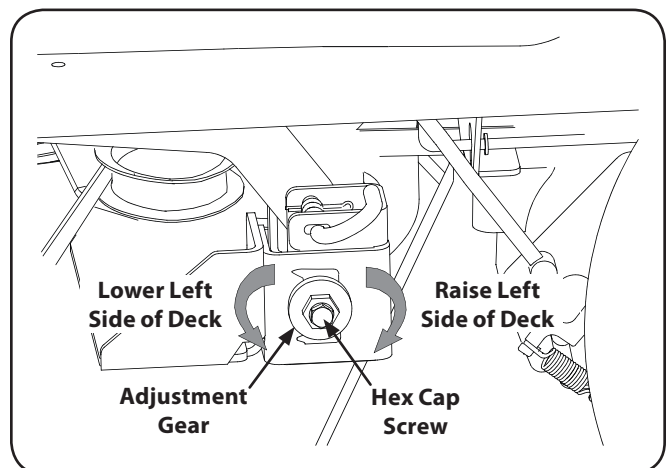

Figure 6-5
6. Loosen, but do not remove, the hex cap screw on the left deck hanger bracket. See Figure 6-5.
7. Level the deck by using a wrench to turn the adjustment gear (found immediately behind the hex cap screw just loosened) clockwise to raise the left side of the deck, or counterclockwise to lower the left side of the deck. See Figure 6-5.